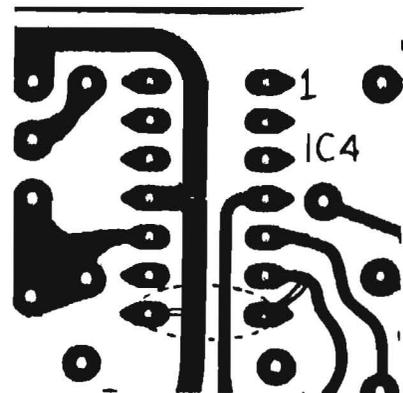

Fig. 5
- 7. Using Mylar sleeving over cap leads; solder .02uF cap to traces from IC4 pins 6 and 11. See Figure 5, below.
9. Replace diode with jumper wire. Refer to Selectake II schematic, Figure 5 of Selectake II manual.